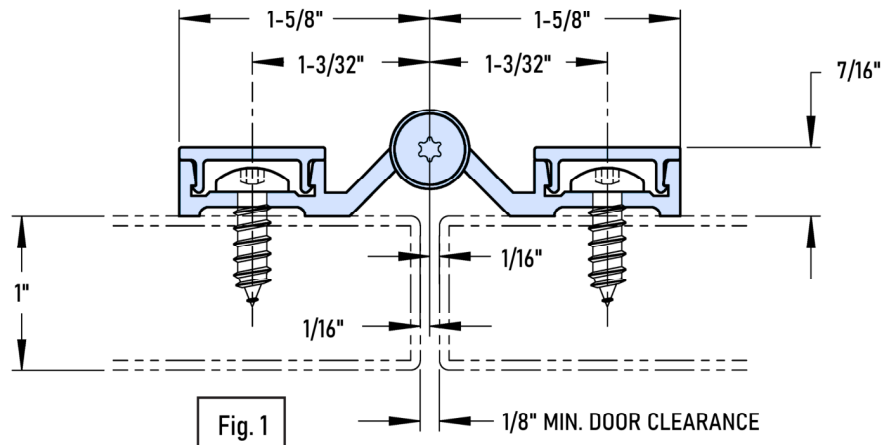

Fig. 1
- Place the hinge on partition door as shown (Fig. 1). Be sure the hinge is properly aligned with the top of the door. Measure from the edge of the door to hinge at both the top and bottom to ensure that the hinge is located squarely on the door (Fig. 2).